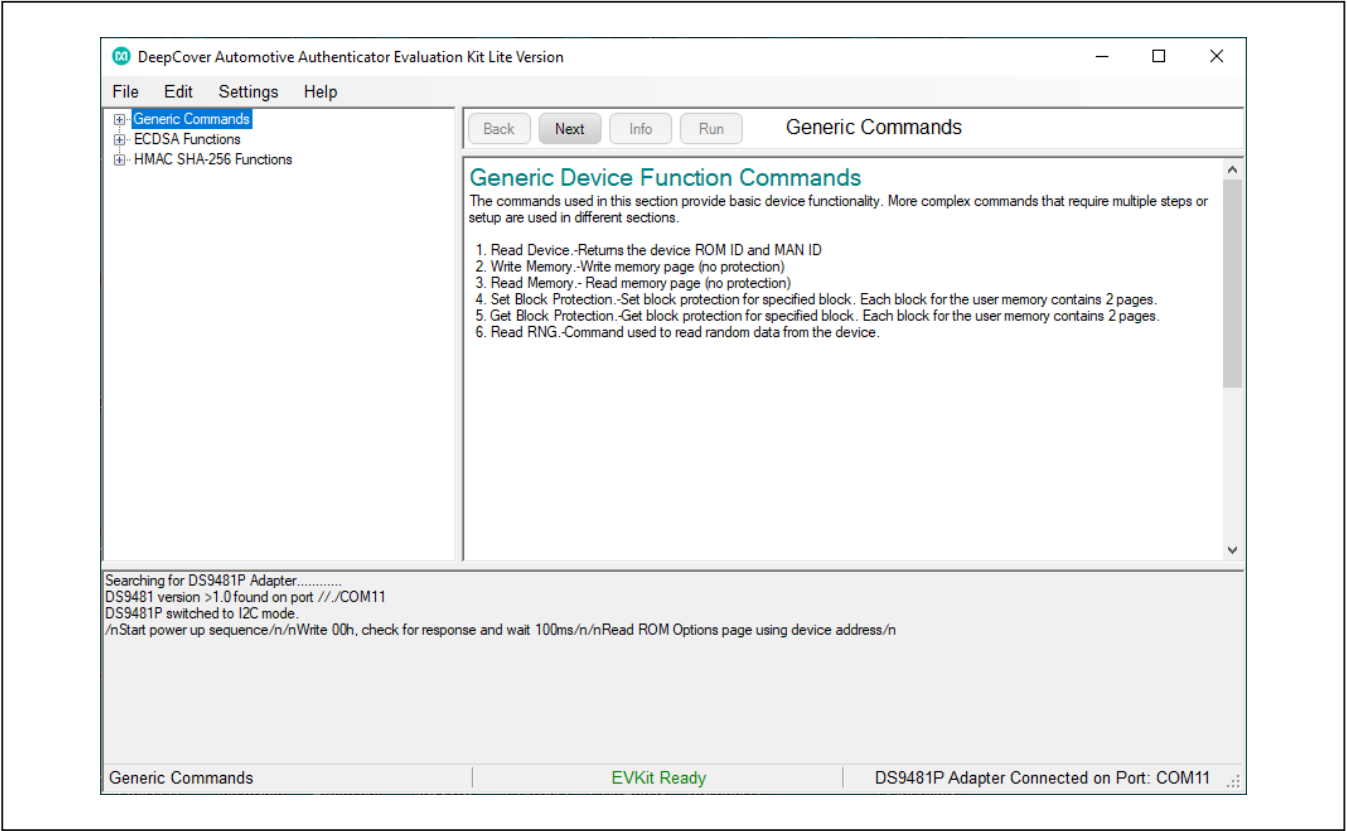

Figure 8. DS28E40 EV Kit Program (Default View Upon Opening)
7) The DS28E40 EV kit program opens and automatically connects to the COM port. This can be verified in the lower right corner of the window, as shown in Figure 8.